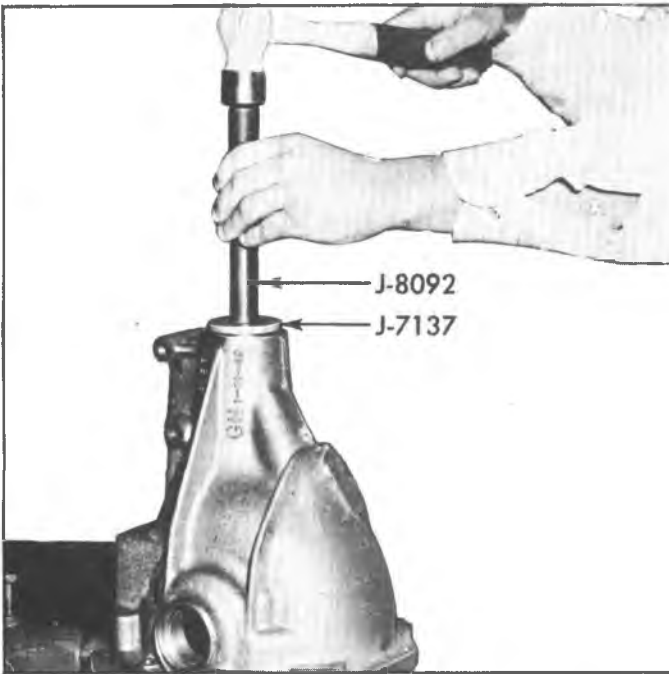

Fig. 17C—Installing Pinion Front Bearing Cup
2. Select front and rear pinion bearings and drive cups into carrier using Drive Handle J-8092 and Cup Installers J-8608 for the rear cup and J-7137 for front cup. See Figures 17C and 18C. Seat cups securely and squarely against shoulders in carrier.